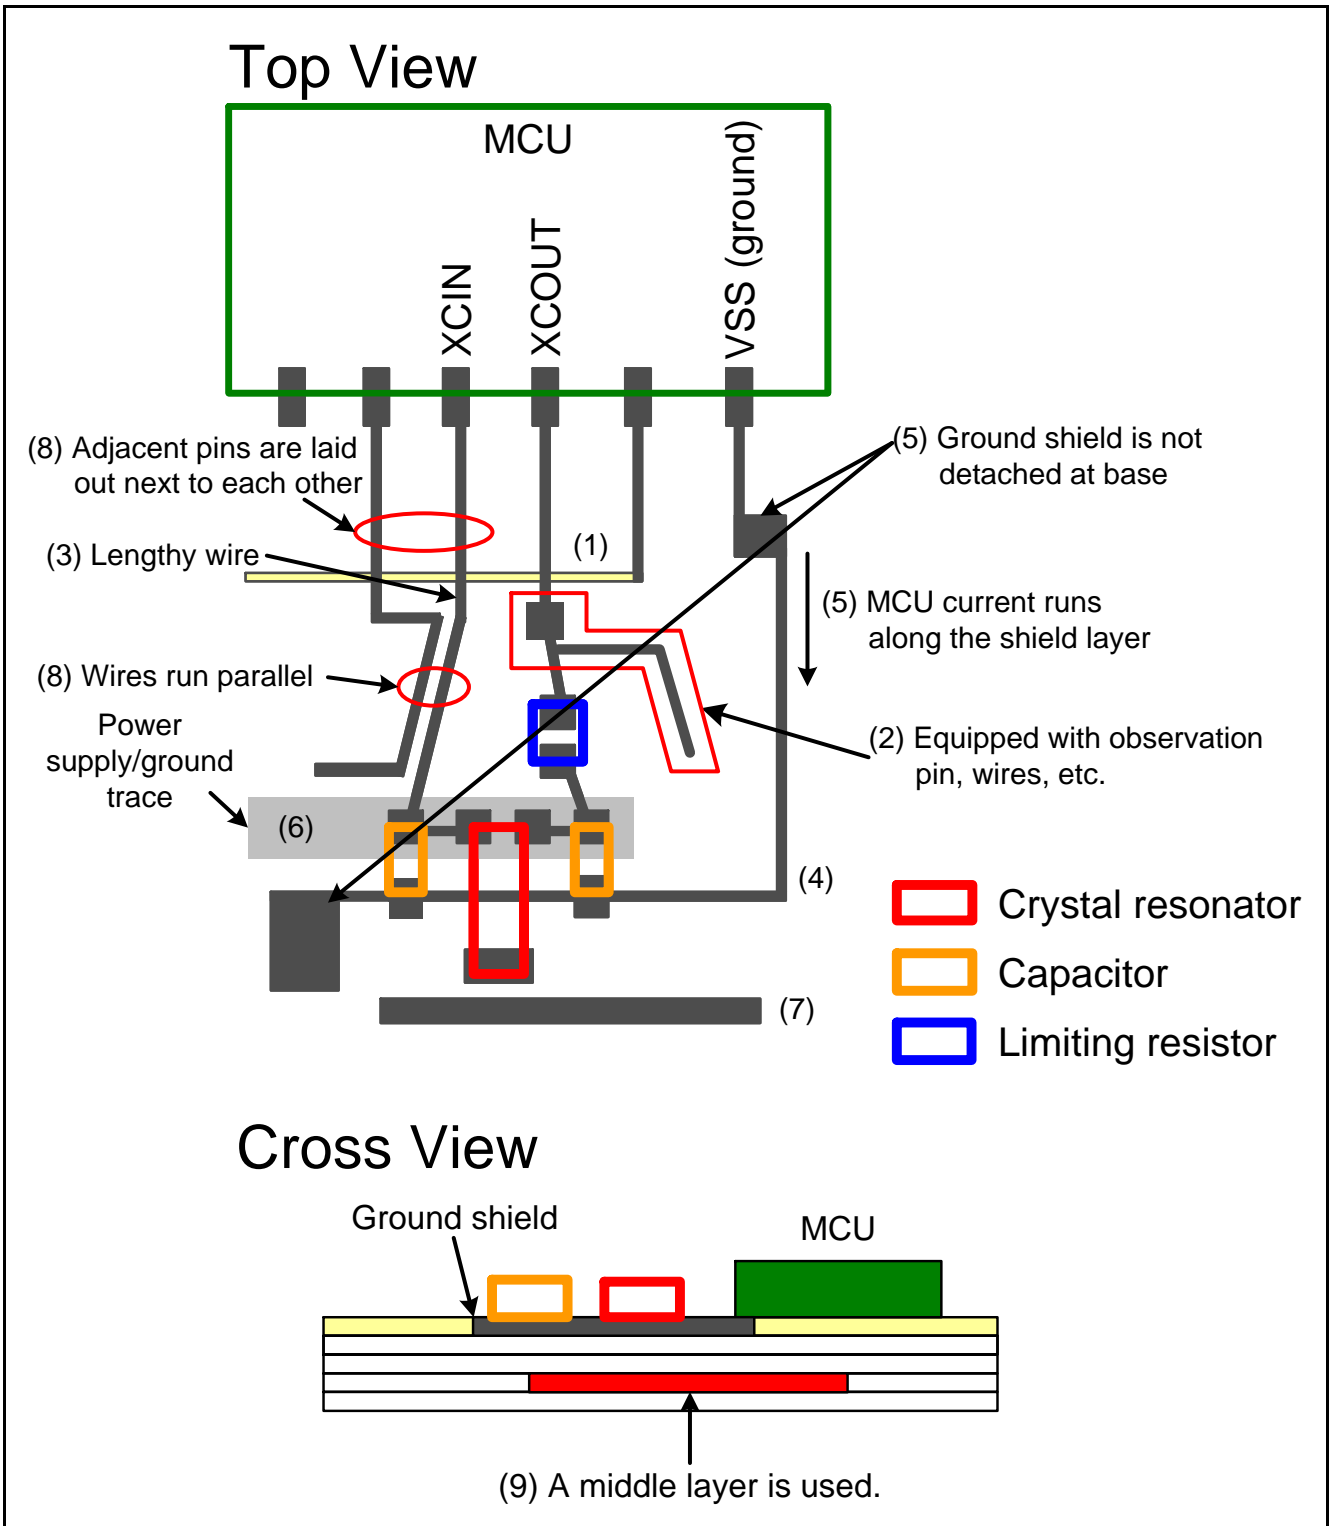

Figure 1.8 Trace Example Showing a High Risk of Erroneous Operation Due to Noise
Do not lay out traces described in (1) through (9). Laying out the traces below may cause the low CL resonator to not oscillate correctly. Figure 1.8 shows a trace example.
- (1) XCIN and XCOOUT wires cross other signal wires (risk of erroneous operation).
- (2) Observation pins are attached to XCIN and XCOOUT (risk of oscillation stopping).
- (3) XCIN and XCOOUT wires are long (risk of erroneous operation or decreased accuracy).
- (4) The ground shield does not cover the entire area, and where there is a ground shield, the wiring is long and narrow (easily affected by noise, and there is a risk that accuracy will decrease from the ground potential difference generated by the MCU and external capacitor).
- (5) Ground shield is not detached near VSS pin (risk of erroneous operation from MCU current flowing to the ground shield).
- (6) Power supply or ground trace are under the XCIN and XCOOUT wiring (risk of losing the clock or oscillation stopping).
- (7) A wire with a large-current is routed nearby (risk of erroneous operation).
- (8) Parallel wiring for adjacent pins is close and long (risk of losing the clock or oscillation stopping).
- (9) The middle layers are used (risk of oscillation characteristics decreasing or signals operating erroneously).